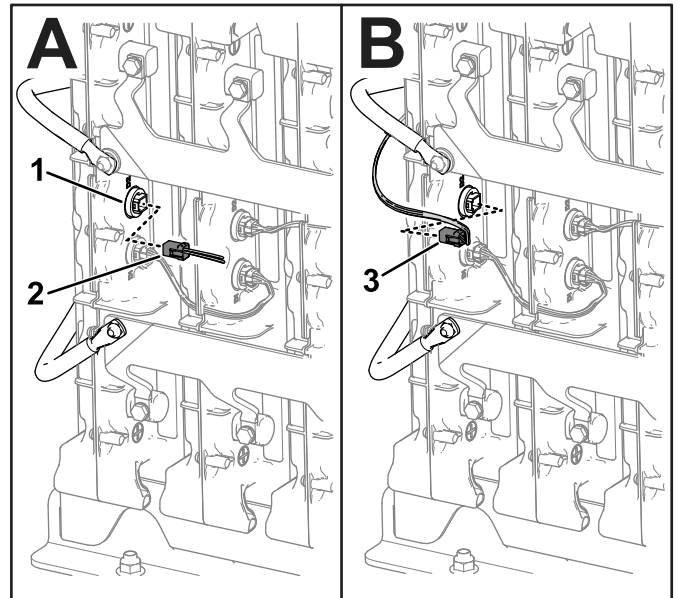

**Figure 7**
1. Connect the wire harnesses to the batteries as shown in Figure 7.
2. Route the remaining connector of the data-interface wire harness (45-1/2 inches) toward the rear battery tray (Figure 7).